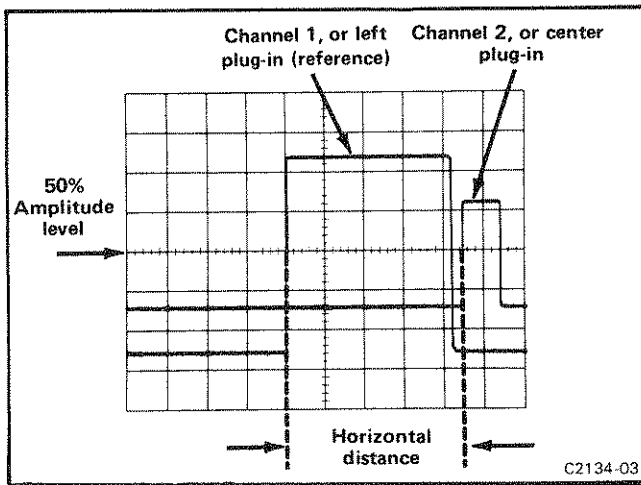

Fig. 1-6. Measuring time difference between two pulses.
10. Measure the horizontal distance between the two measurement points (see Fig. 1-6).